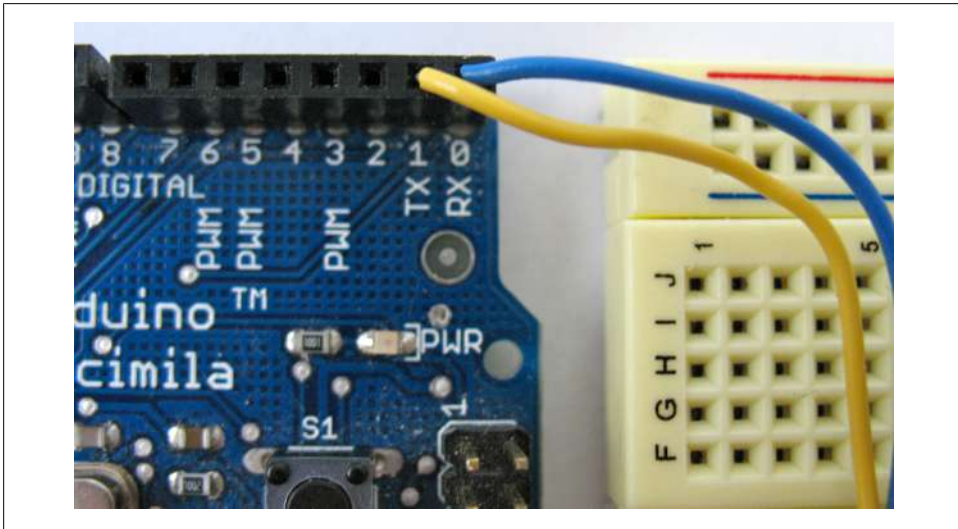

Figure 3-9. Transmit and receive connections on Arduino
4. Use yellow (or another color) hookup wire to connect pin 2 (TX/DOUT) of the XBee to digital pin 0 (RX) on your Arduino (see Figure 3-9).